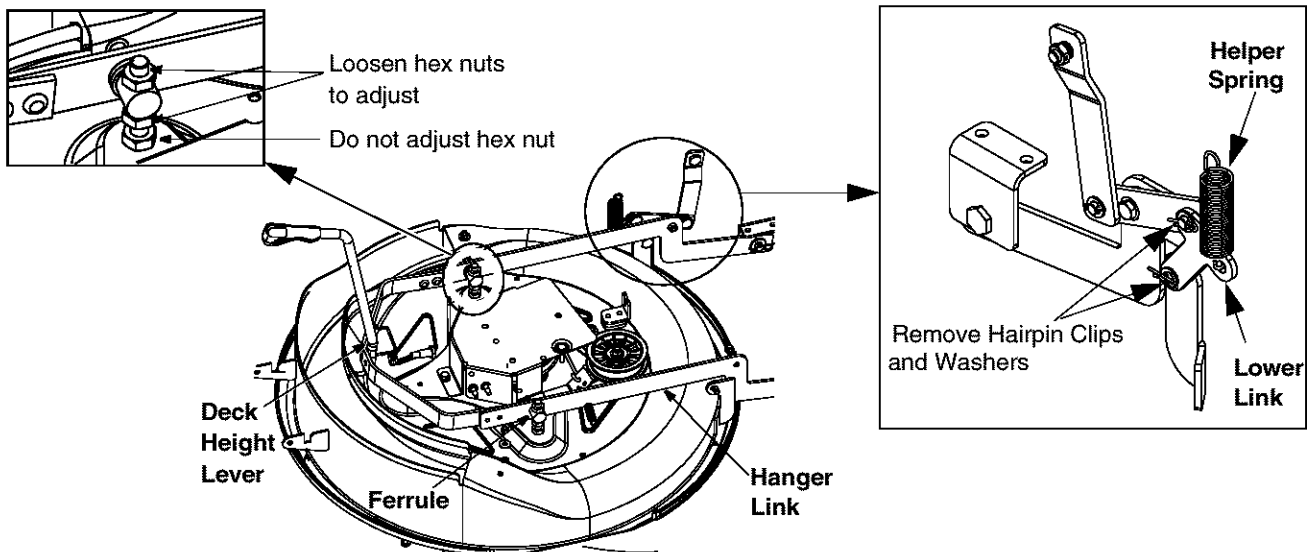

Figure 15
1. Completely loosen, but do not remove, the top hex nut out of the three hex nuts that hold the hex bolt and the ferrule on the deck hanger link assembly. See Figure 15.
5. Reattach lower links as shown in Figure 15 inset.
3. Completely loosen, but do not remove, the top hex nut out of the three hex nuts that hold the hex bolt and the ferrule on the deck hanger link assembly. See Figure 15.
6. Thread the middle nut up against the base of the ferrule. See Figure 15.